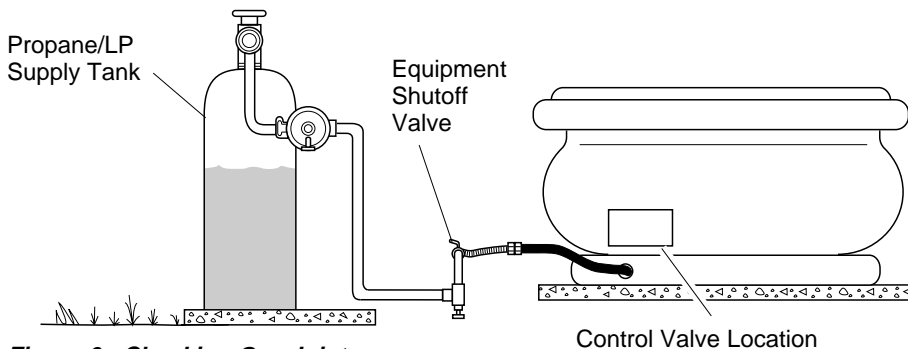

Figure 6 - Checking Gas Joints
3. Check all joints from propane/LP supply tank to equipment shutoff valve (see Figure 6). Apply mixture of liquid soap and water to gas joints. Bubbles forming show a leak.